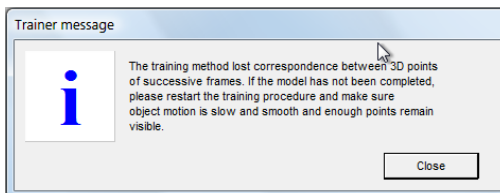

Figure 6.10. Correspondence lost
3. Slowly and smoothly move and rotate the object in front of the PST such that all markers will be shown to the system. Make sure that three or more markers always remain visible during motion. In case not enough markers remain visible, training is aborted and the window as shown in Figure 6.10 appears. In this case, close the window and restart the training procedure. If the problem persists, check that the device has enough visible markers from each angle.